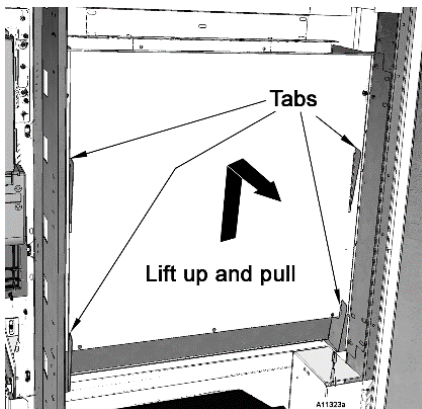

Figure 6. Remove Display Panel
2. Firmly grip the top edge of the Live Display Panel. Lift it up then pull. Live display is secured in place with four tabs. See **Figure 6**.